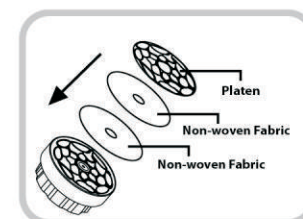

Fig. 11
4. Assemble the Resin Filter by first gently pulling out the Platen from the top of the filter. Place the two (2) Non-woven Fabric (white) on top. Secure both by placing the platen on top. (Fig. 11).